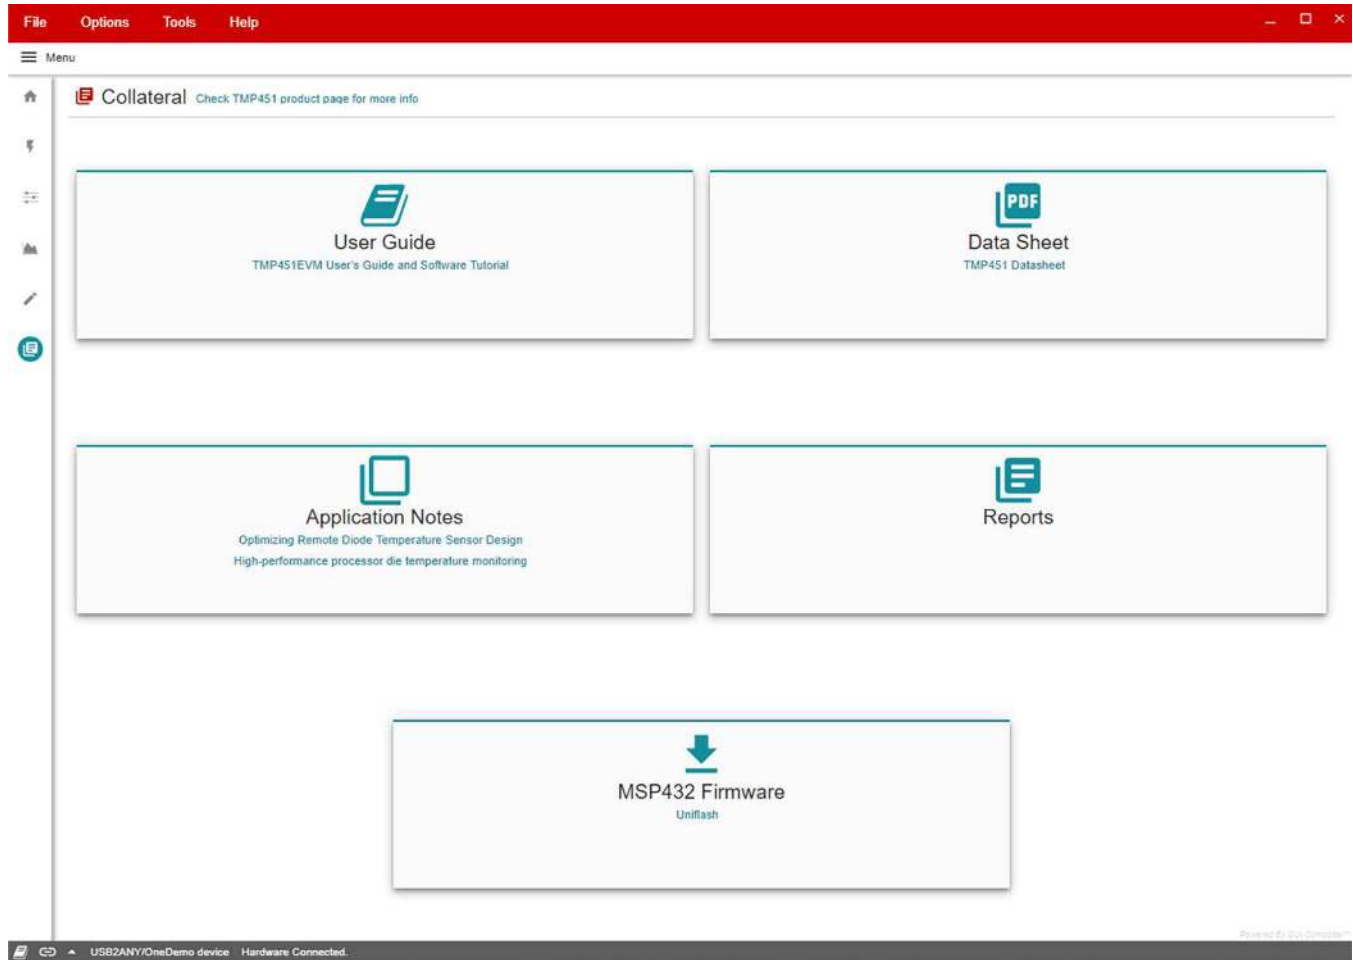

Figure 3-18. TMP451EVM Collateral Tab
The Collateral Tab as shown in Figure 3-18 contains links to web documents pertinent to the TMP451EVM. The page is divided into four sections: (1) User Guide, (2) Datasheet, (3) Application Notes, and (4) MSP432 Firmware.